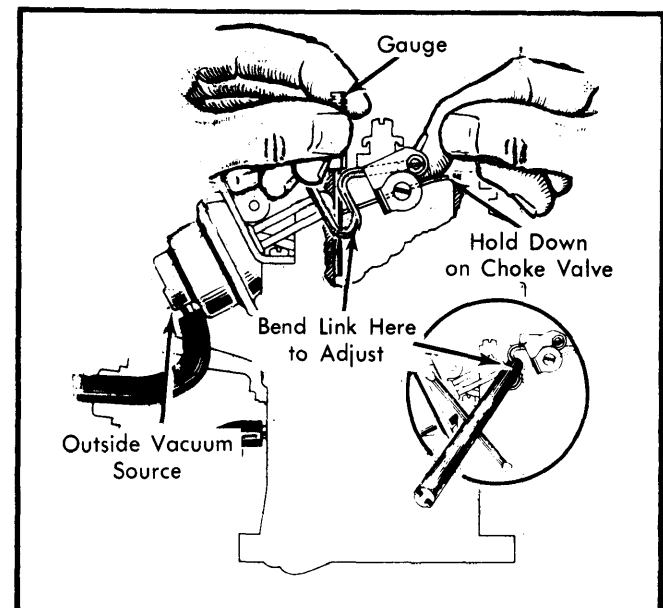

Fig. 5 Adjusting Vacuum Break
- 4) Measure specified clearance between lower edge of choke valve and air horn wall. Measurement can be made with a specified drill or pin gauge. See Fig. 5.